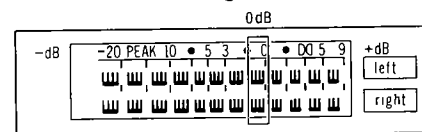

Fig. 17
- At this time, check that 0dB indicator is lighted halfway (intermediate brightness between full brightness and light-out: See fig. 17).